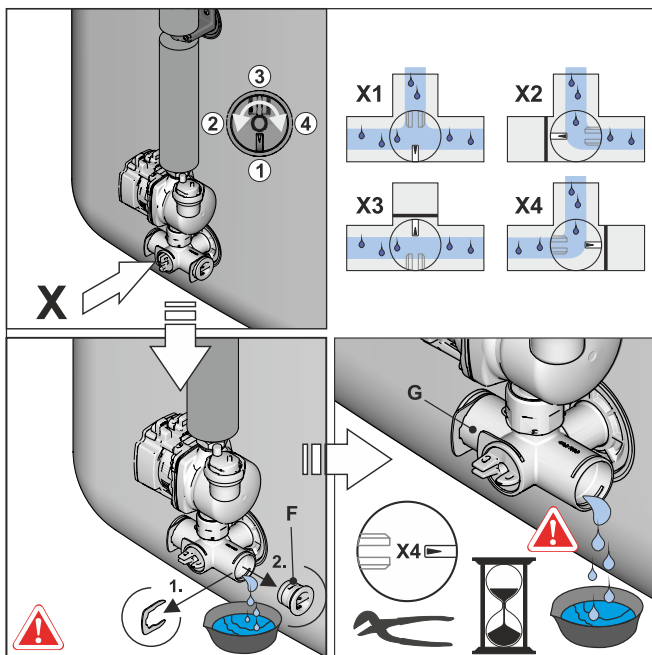

Fig. 8-5 Shut off the valve insert, remove the blind plug from the connection bracket
- 5 Adjust the valve insert on the connection bracket so that the path to the drain hose is open (see also Fig. 8-5) and drain the water content of the storage tank.